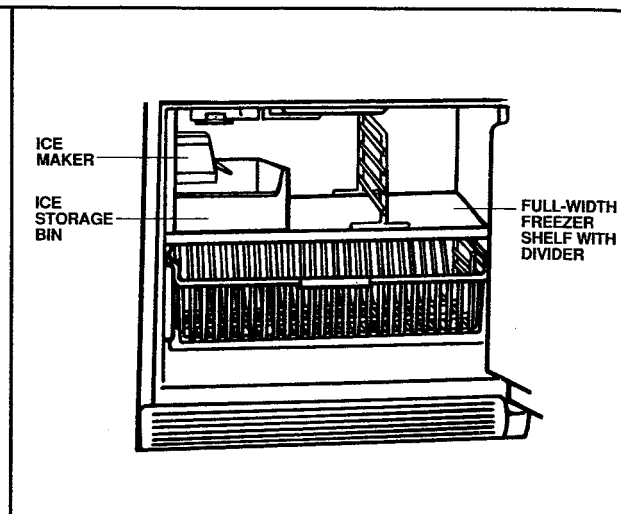

Figure 17
13. Place the ice storage bin under the ice maker, fitting it securely against the left and rear walls of the freezer compartment. See Figure 17. Close the freezer door.